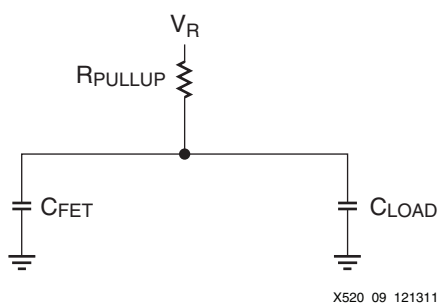

Figure 9: Schematic Representation of the 3.3V Side of the FET
The extra time (T) required to charge the line from V_{CC} of the FPGA driver to V_{IH} (plus margin) can be reasonably estimated in Equation 9 with the topographies shown in Figure 8 and Figure 9. V_{IH} is of the receiver, and V_m is the desired margin above V_{IH} . τ is the time constant $R_{PULLUP} \times (C_{FET} + C_{LOAD})$.